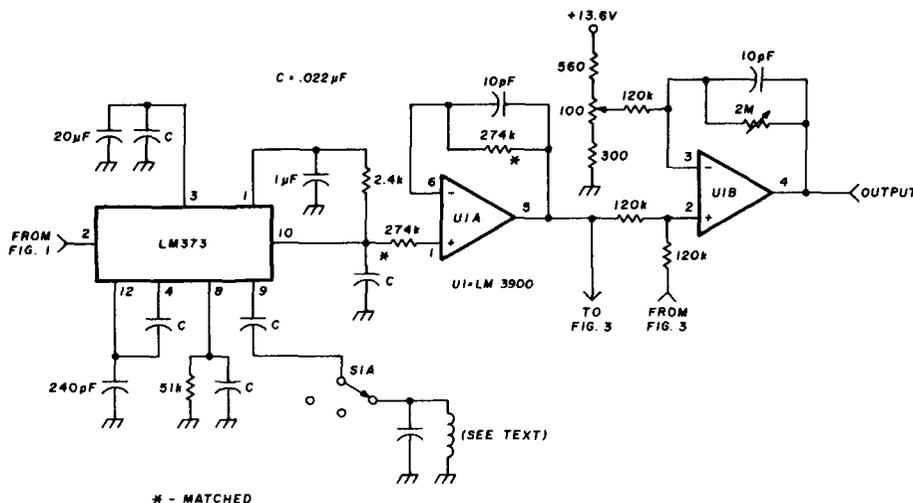

fig. 2. Log detector circuit. The 1- $\mu$ F capacitor at pin 1 of the LM373 determines respond speed. Useful bandwidth is about 1 kHz.
**Log detector.** Fig. 2 shows the logarithmic detector, which uses the agc output from an LM373. The LM373 is connected in the a-m mode precisely as recommended by the manufacturer, with the exception of the 1- $\mu$ F capacitor at pin 1. Normally, a much higher value is used to prevent the agc from following audio; we want the agc to follow audio.